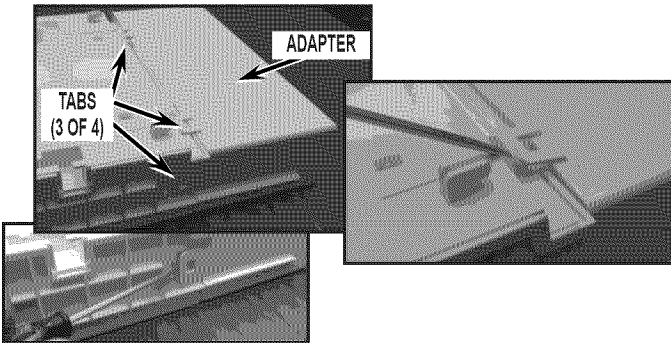

FIGURE 11
14. Remove the adapter from the ice box assembly. Use flat head screwdriver to release 4 tabs holding the adapter to the ice box and discard adapter. See *Figure 11*.